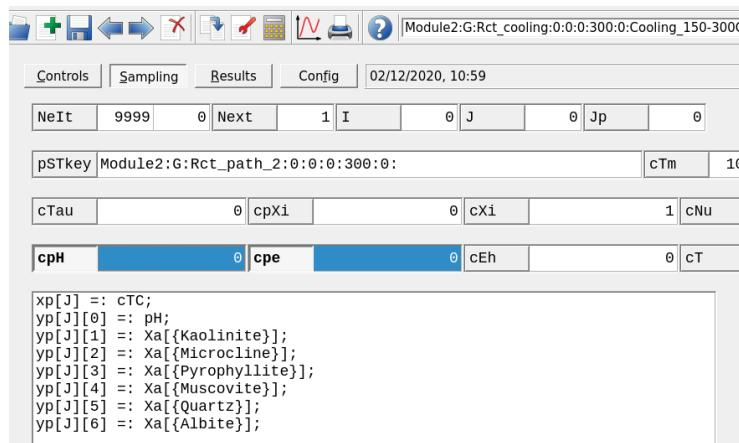

Figure 2.20: ‘Sampling’ tab window showing how to modify the x-axis to display temperature ‘cTC’.
- The final step is to set the x-variable to temperature by modifying the script in the **Sampling** tab to **cTC** (Fig. 2.20). Save your record and re-calculate.